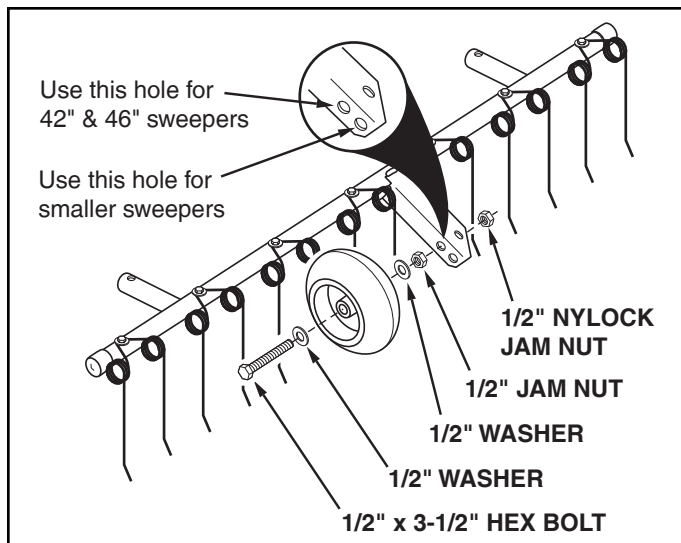

FIGURE 2
3. Assemble a 1/2" washer, the wheel, another 1/2" washer and a 1/2" plain jam nut onto the 1/2" x 3-1/2" hex bolt. See figure 2.
4. Insert the bolt through the welded bracket and assemble a 1/2" nylock jam nut onto the bolt. Adjust nuts so that there is no end play in the wheel and then tighten securely against the welded bracket. Make sure the wheel still turns freely. See figure 2.
1. The operating height of the dethatcher is controlled by the gauge wheel at the front of the dethatcher and is not adjustable. The correct wheel position was determined in figure 2 when you assembled the wheel.